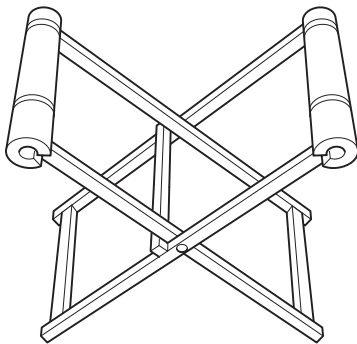

Fig 11. Glass Stand
- 2 After checking for size, remove the new glass and place it on a purpose made glass stand. ⇒ Fig 11. \(□ 1-10\).